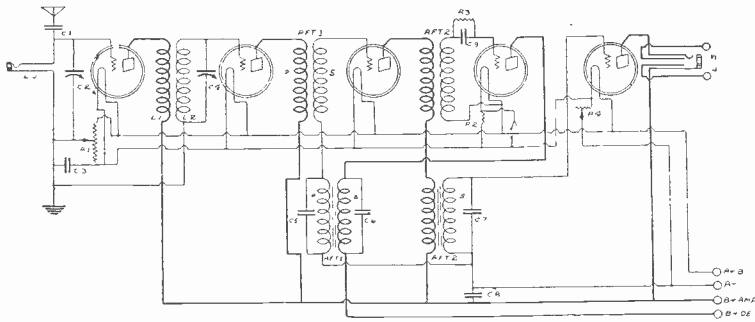

FIG. 528
(1) The circuit diagram of a receiver using these parts is shown in Fig. 528. You will note that is a reflex, the third radio frequency stage being the reflexed one. The untuned radio frequency transformers are used in this stage as well as the detector stage. One audio frequency transformer is used in the reflexing stage, while the other is used as a straight stage of audio frequency amplification.
(2) Only one coil is to be wound. This is L1L2. L1 is the primary and consists of ten turns. L2 is the secondary, which consists of forty-five turns. Both these windings are placed on a tubing three inches in diameter, utilizing No. 24 double cotton covered wire. A space of one-quarter inch should be allowed between these two windings. The beginning and the end of the windings should be marked with pieces of paper for simplifying the wiring.
(3) C2 and C4 are the .0005 mfd. variable condensers, C2 being shunted across the loop and C4 across the secondary of the tuned radio frequency transformer. C1 is a .00025 mfd. fixed condenser. C3 is a .0005 mfd. fixed condenser. C5, C6 and C7 are .0005 mfd. fixed condensers also. The six-ohm rheostat is used to control the filaments of all the tubes. So that you may use a 12 type tube as detector a ¼ ampere ballast resistor is inserted in series with the filament, but may be short-circuited out for the higher filament voltage tubes. Across this ballast a filament switch is inserted. The grid leak has a resistance of two megohms, while the grid condenser has a capacity of .00025 mfd. L1 is the loop jack. The double circuit jack is used in the last audio output. Across the inner terminals of this jack binding posts are connected. These posts are permanently connected to the speaker. The jack is used for the insertion of the phones to tune in. As soon as the station has been